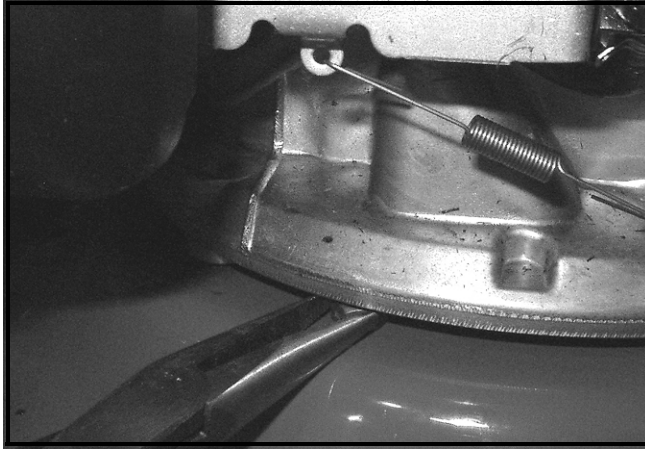

FIGURE 7
20. Re-install the 731-05903 doughnut baffle. Using a pair of thin long nose pliers or needle nose vise-grips, position one of the 1/4"-20 center lock hex nuts, 712-0291, over one of the baffle mounting holes, between the deck and the engine sump. See Figure 7.